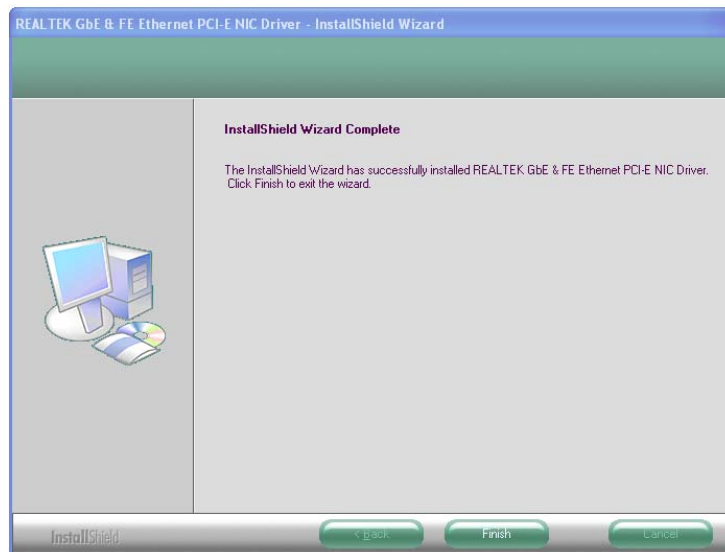

Figure 5-18: LAN Driver Installation Complete
Step 10: When the driver installation is complete, the screen in **Figure 5-18** appears.